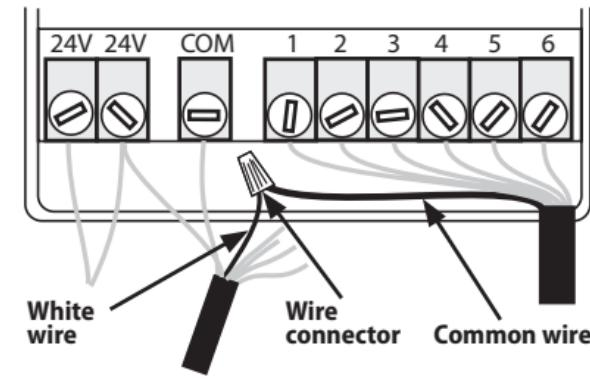

Figure 9
3. Connect the wire or wires you disconnected from the 'COM' terminal to the White wire from the SMRT-Y cable using a wire nut (see Figure 9).